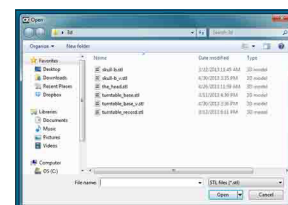

Fig. 62
2. Select your .stl file or .creation file and click open. (Fig. 62)